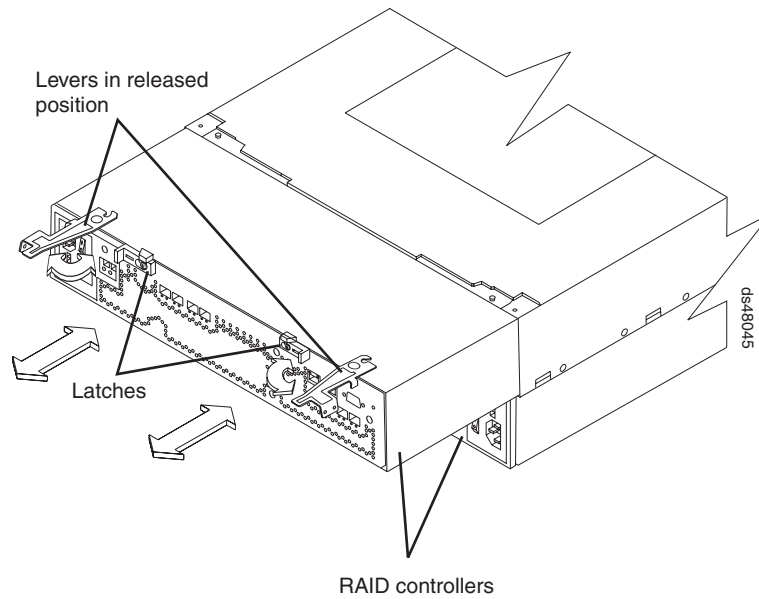

Figure 78. Removing the controller from the storage subsystem
- b. Use the levers to slide the controller from the storage subsystem chassis. (Figure 78 on page 127 shows a controller sliding from the storage subsystem chassis.)